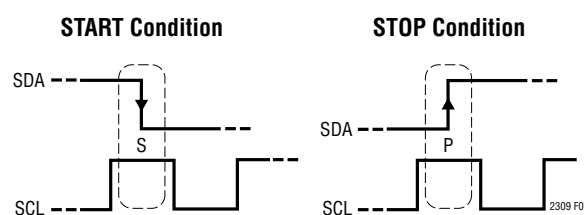

Figure 7. Timing Diagrams of START and STOP Conditions
Referring to Figure 7, a START (S) condition is generated by transitioning SDA from HIGH to LOW while SCL is HIGH. The bus is considered to be busy after the START condition. When the data transfer is finished, a STOP (P) condition is generated by transitioning SDA from LOW to HIGH while SCL is HIGH. The bus is free after a STOP condition is generated. START and STOP conditions are always generated by the master.